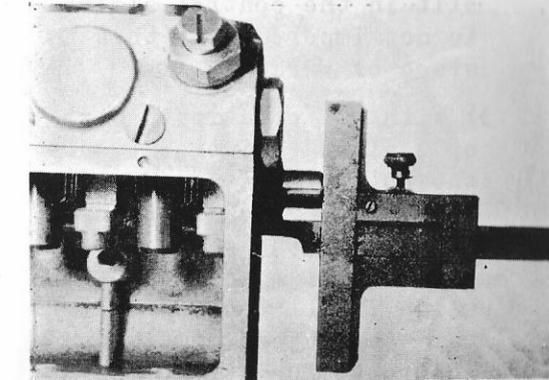

Fig. 9-55
- 1) Align the control rack to the body with the equal travel distance provided at right and left hand side of the control rack. Refer the notched marking on the outer circumference of the control rack for aligning the control rack with equal distances apart from each side of the body. The control rack may be properly aligned by setting it to position 17.5mm apart from the level of the injection timing control on the body. (See Figs. 9-55 and 56)